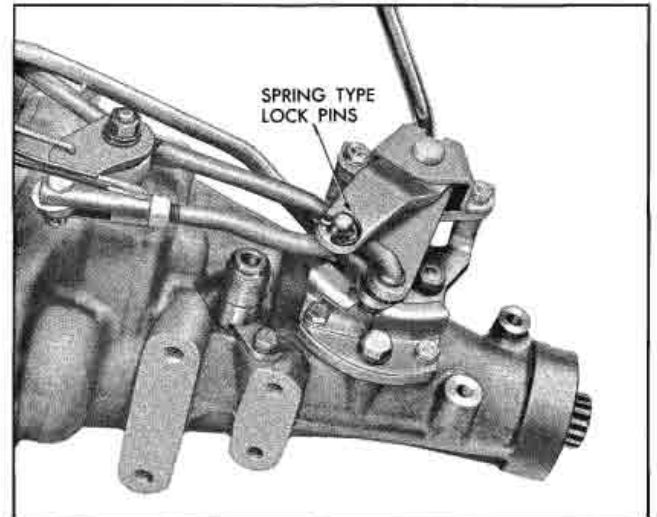

Fig. 7B-34 Installing Spring-Type Lock Pin
8. Connect shifter rods to shift bracket at rear extension, using spring-type lock pins (Fig. 7B-34). Connect shifter rods to shift levers, using 1/4" cotter